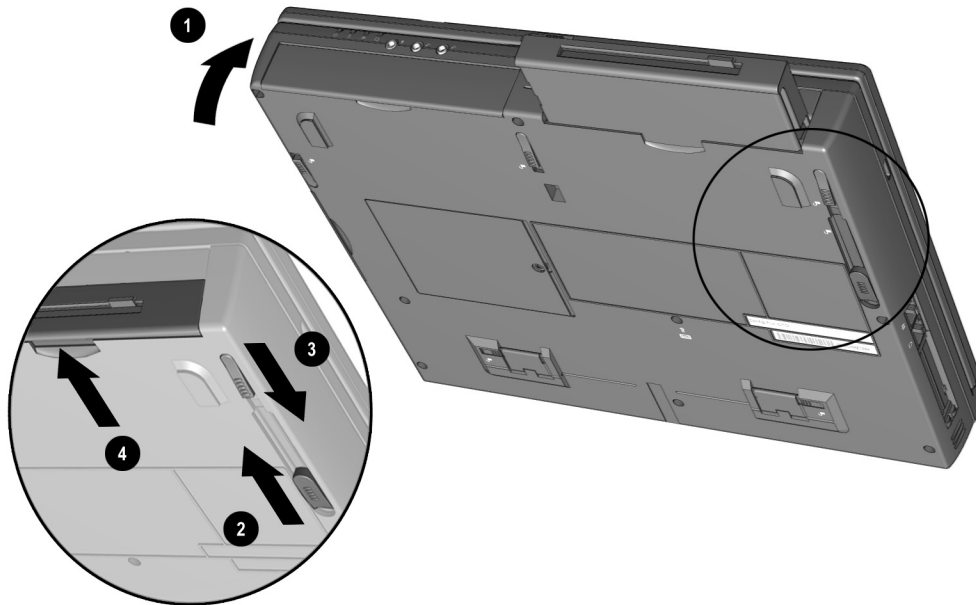

Figure 5-20. Removing a Device from the MultiBays
3. Tilt the computer at an angle **1** so the bottom of the computer is accessible (Figure 5-20).